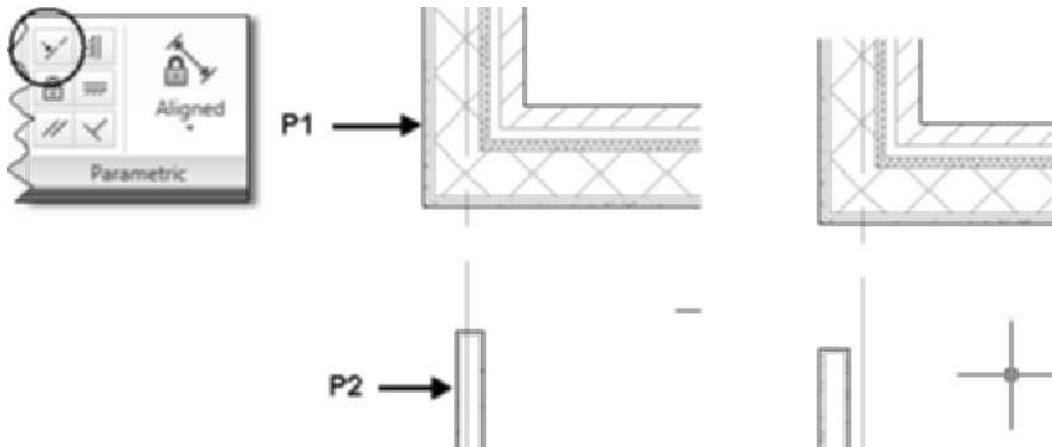

FIGURE 2.60 Applying the Collinear constraint
9. In this step you will use the Collinear constraint to move the interior wall to align its GWB component to the GWB component of the exterior wall. Select the exterior wall at p1 as shown in Figure 2.60 to display the Wall contextual tab.
Select first object or [Multiple]: (Select the wall at **p1** as shown in Figure 2.60.)
Select second object: (Select the wall at **p2** as shown in Figure 2.60.)